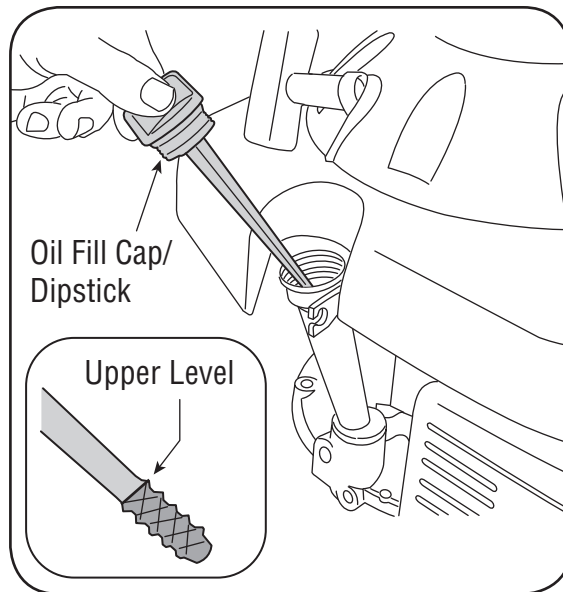

Figure 9-3
- Remove the oil filler cap and wipe the dipstick clean. See Figure 9-3.
3. If the level is low, slowly add oil to the upper limit on the dipstick. See Figure 9-3 inset.